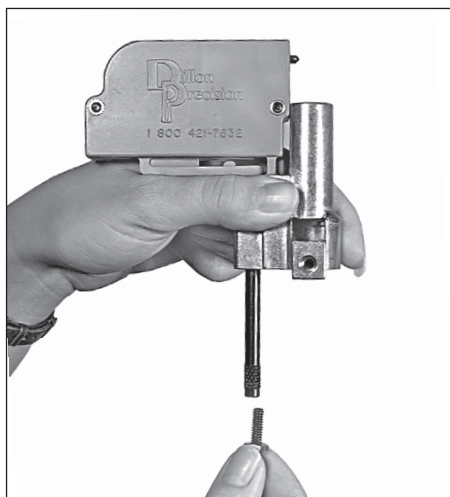
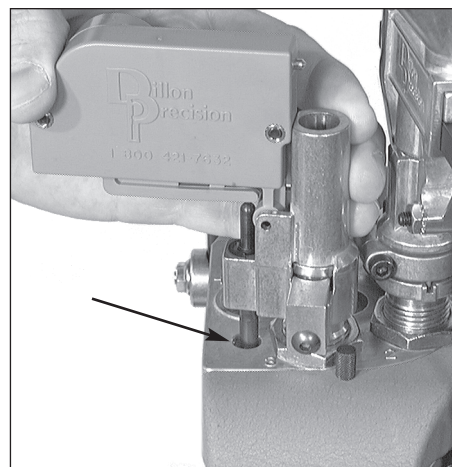

FIG 56
FIG 57
4. Remove the 10-24 screw and nut from the black push rod FIG 56 and place the powder check system on the powder check die FIG 57. Center the black push rod (see arrow FIG 57) in the hole that is to the left of the die.